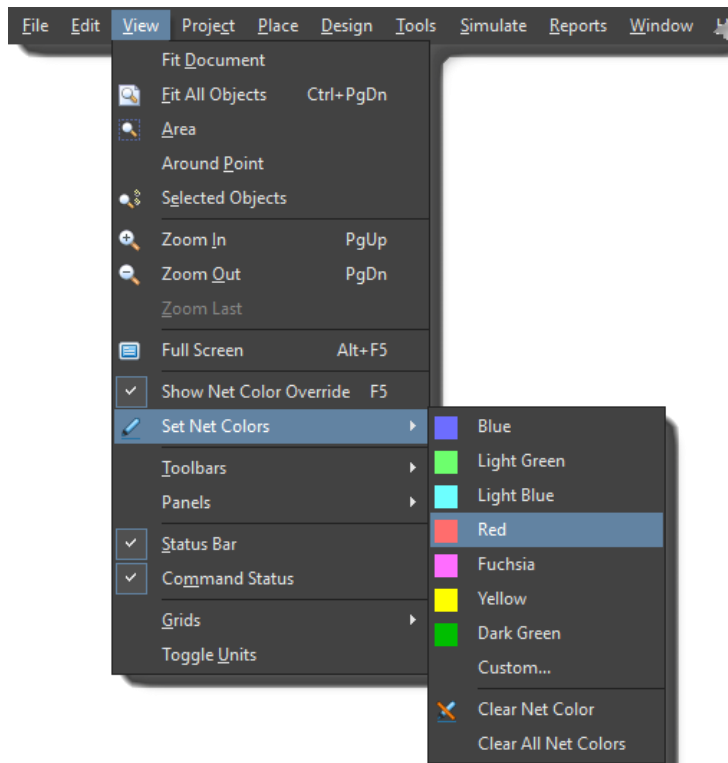

Figure 2. Set Net Colors menu
12. From the **View** menu, select **Set Net Colors** and select **Red** as shown in Figure 2 below.